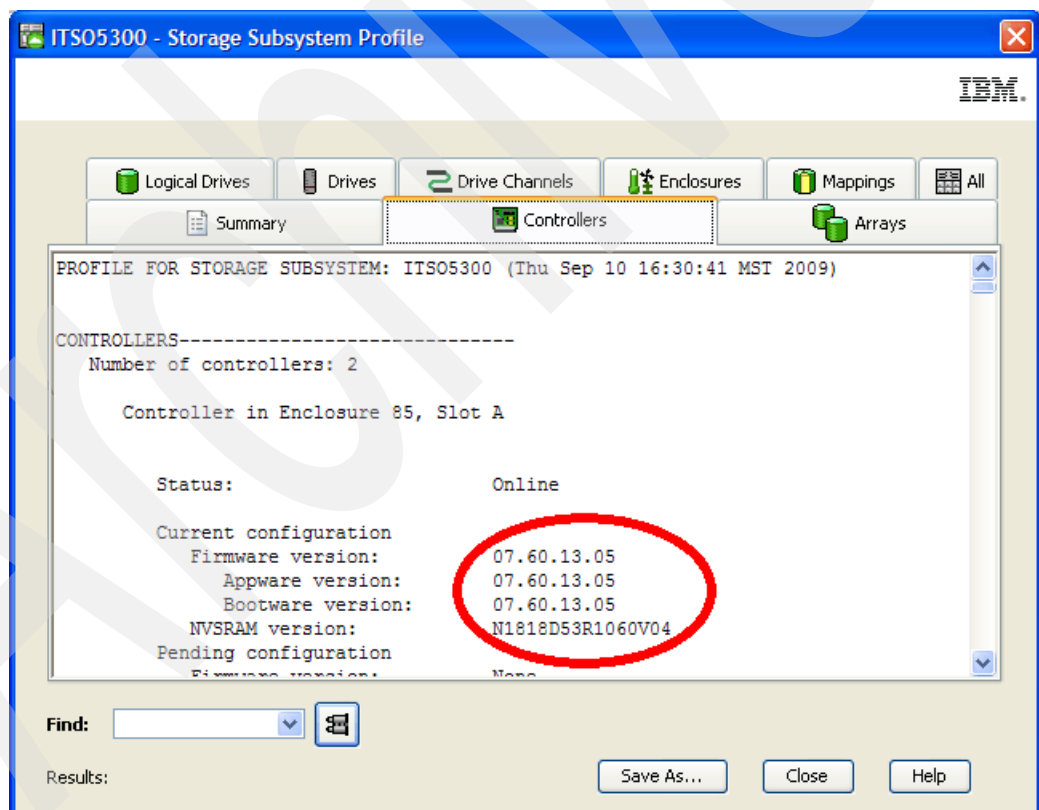

Figure 7-1 Controller and NVSRAM version in Storage Subsystem Profile
2. Click the **Controller** tab to display a window, as shown in Figure 7-1. This shows the controller firmware (CFW) and NVSRAM version installed